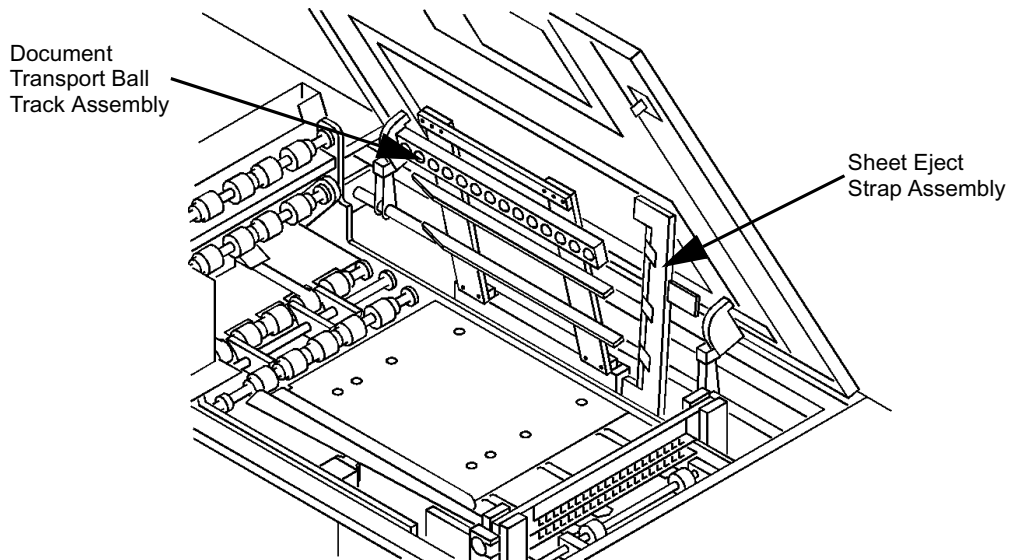

Figure 2-7: Preparing to Adjust the Side Guide
- 3 Open the Document Transport Ball Track assembly, as shown in Figure 2-7.
- 4 Open the Sheet Eject assembly, as shown in Figure 2-7.